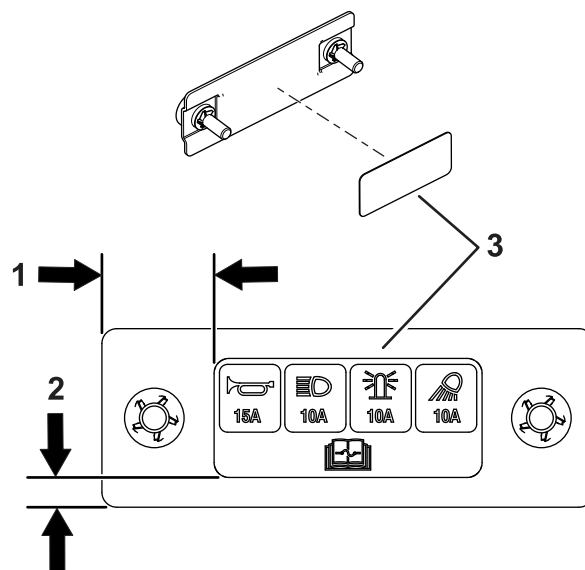

Figure 11
12. Apply the decal to the fuse cover as shown in Figure 11.